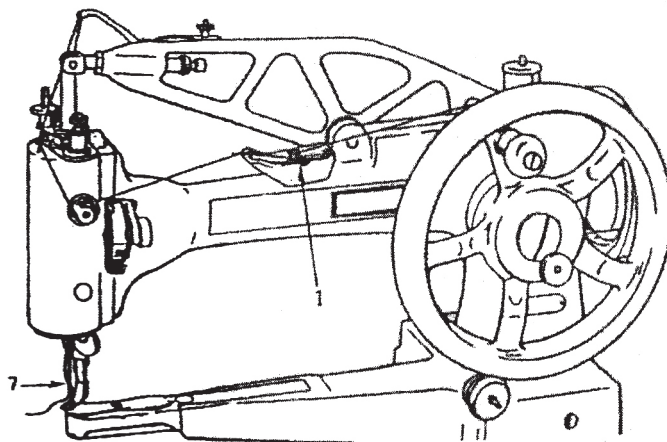

Fig.20
2. Raise the wire guide in the oil cup on top of the arm and pass thread under guide 1 then press guide back into position. See Fig.20.
2. 将油槽压簧1抬起, 然后将缝线穿过并压在压簧1下。如图20。